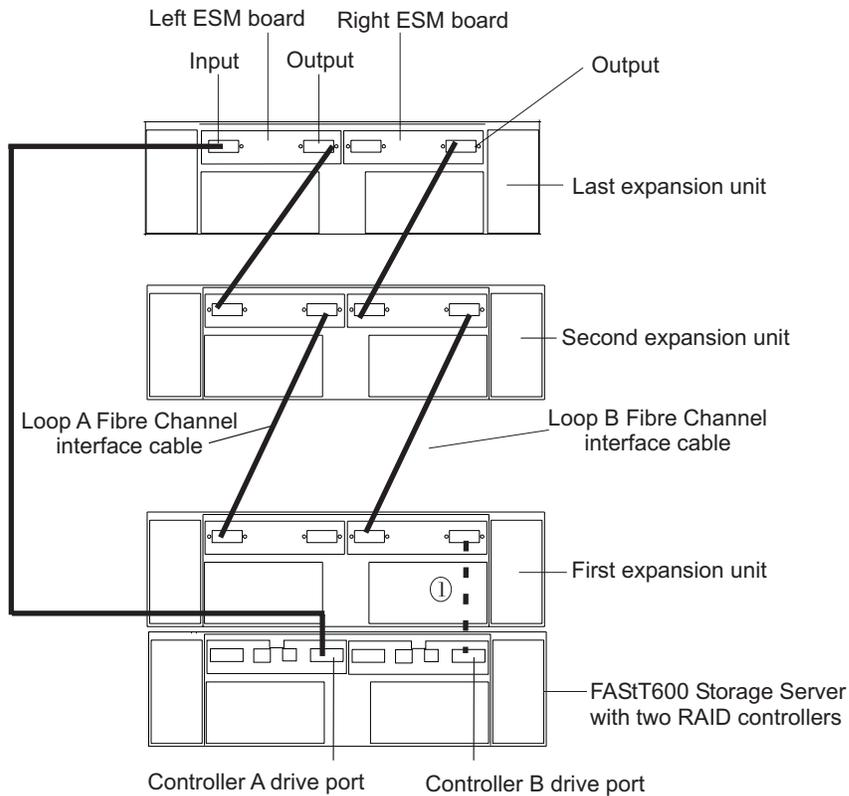

Figure 60. Disconnect the fibre channel cable from one storage server to the first FAS*T* EXP700
5. Disconnect the fibre channel cable that connects the right-hand storage server controller drive port to the first storage expansion unit. In Figure 60 on page 88, this cable is shown with a dashed line and marked 1. Mark the cable for later use. You will not reconnect this cable until you have replaced all the ESMs to be upgraded in the disconnected drive loop.
7. After you have upgraded and reconnected each ESM in the drive loop, reconnect the fibre channel cable from the controller drive port to the first EXP710 ESM port (disconnected in step 5.) In Figure 60 on page 88, this cable is shown with a dashed line and marked 1.